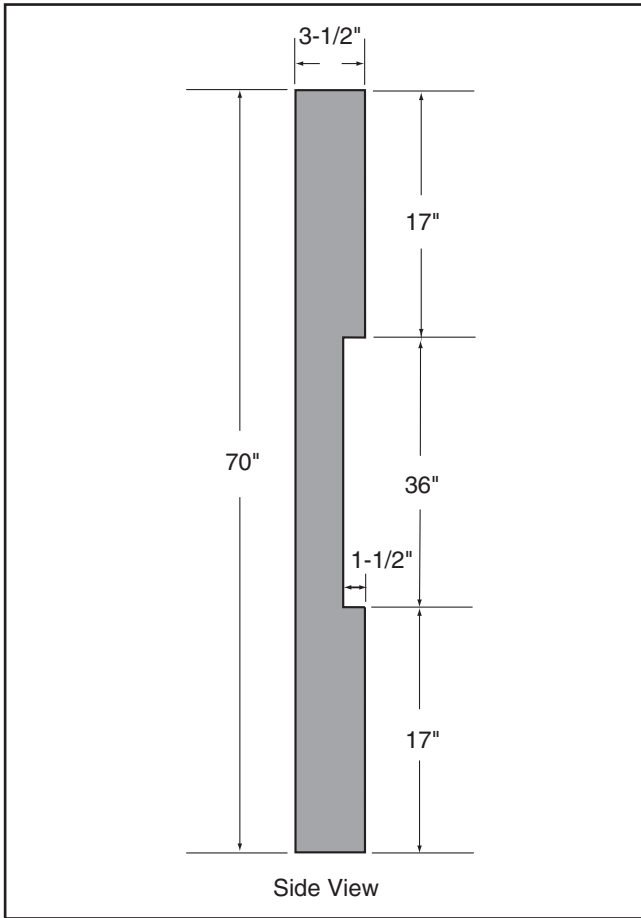

Figure 63. Dimensions of coplanarity gauge.
Coplanarity Gauge (see **Figure 63**) 1
1. Make "Coplanarity Gauge" shown in **Figure 63** on **Page 51**.